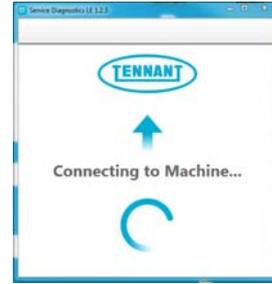

Fig. 33
4. The application software will then connect to the machine (Figure 33). If the application remains on the “Connecting to Machine...” screen for an extended period, cycle key or close and restart the application software. If it still fails to connect, restart the computer.